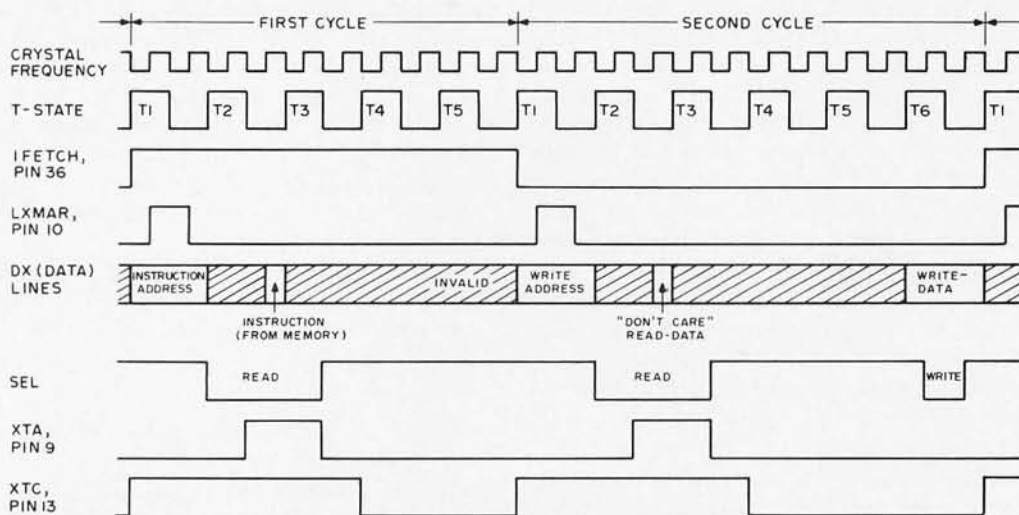

Figure 1: IM6100 CPU Timing Diagram. This is an example of the timing of several IM6100 processor signals during the execution of a DCA instruction.
**Pin 9: XTA line.** This timing line goes high once each machine cycle. It is typically used by external logic to indicate the "read" portion of the cycle. See the timing diagram of figure 1.
IM6100 timing is quite easy to understand. Refer to the basic CPU timing diagram shown in figure 1. This diagram is given in the form of an example — the complete fetch and execute cycles of a DCA instruction. This instruction deposits the 6100 accumulator contents into a selected memory location, then clears the accumulator.
4. DX line data moves in both directions, to and from the 6100. Only in *some* T-states is this data valid; in other states these lines are in the high impedance state and just float. See the timing diagram, figure 1.